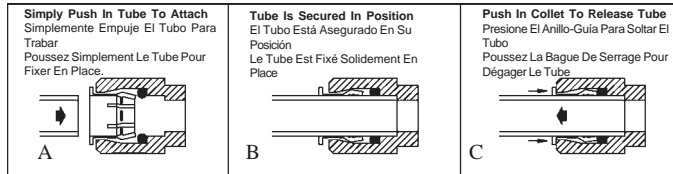

FIG. 1
9. Connect fountain to supply line with a shut-off valve and install a 3/8" unplated copper water line between the valve and the cooler. Remove any burrs from outside of water line. Push the tubes straight into the fittings until they reach a positive stop, approximately 3/4" (See Figs. 1 and 2). **DO NOT SOLDER TUBE INSERTED INTO THE STRAINER AS DAMAGE TO THE O-RINGS MAY RESULT.**
**Actuation of Quick Connect Water Fittings:** Fountain is provided with lead-free connectors which utilize an o-ring water seal. To remove tubing from the fitting, relieve water pressure, push in on the gray collar while pulling on the tubing. (See Fig.1) To insert tubing, push tube straight into fitting until it reaches a positive stop, approximately 3/4".